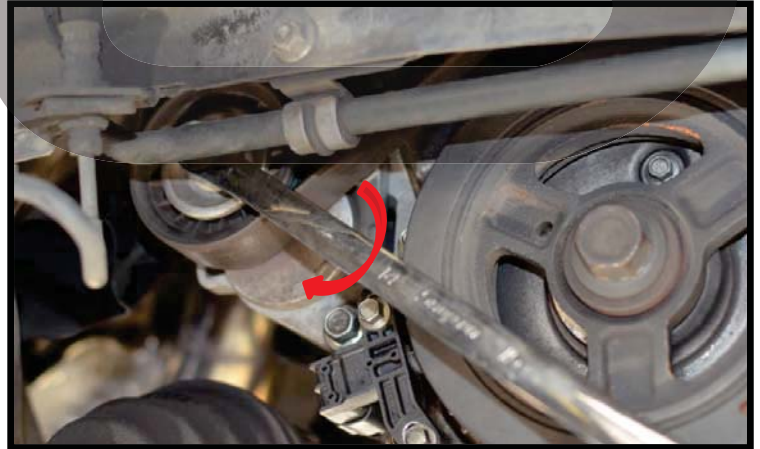

Figure 3b
- c) **Remove the belt.** Use a 14mm wrench to rotate the tensioner pulley. Red arrow in Fig 3b.